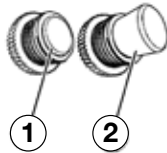

Figure 8 - Breakers - (1) Operating Position
5. Make sure the circuit breakers are properly set (see Figure 8 below).
4. Make sure the circuit breakers are properly set (see Figure 8).